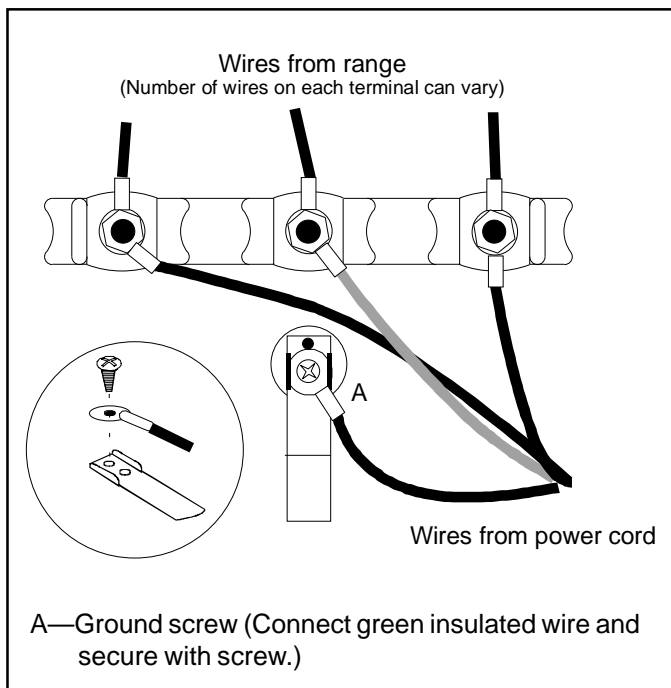

Figure 14
8. See Figure 14. Position grounding strap down and away from terminal block. Attach green or bare wire and grounding strap to back of range using green ground screw previously removed in step 3.